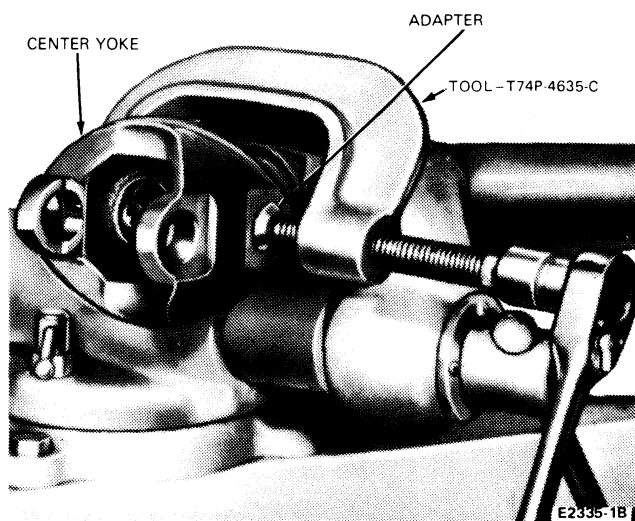
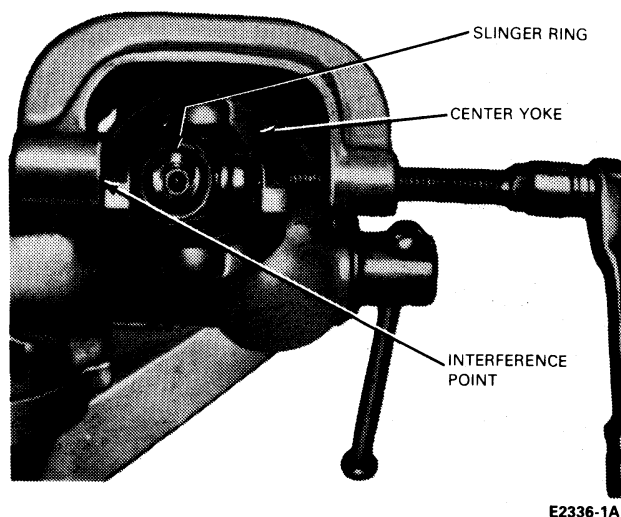

FIG. 9 Removing Bearing from Rear of Center Yoke
FIG. 10 Center Yoke Interference Point
13. Position the tool on the driveshaft yoke (Fig. 9) and press the bearing outward until the inside of the center yoke almost contacts the slinger ring at the front of the driveshaft yoke. Pressing beyond this point can distort the slinger ring. The arrow in Fig. 10 illustrates the interference point.